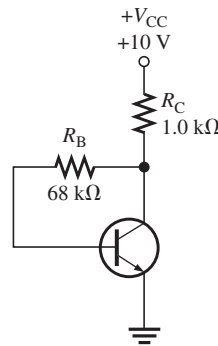

FIGURE 3-70
12. For the collector-feedback bias circuit in Figure 3-70, determine I_C and V_{CE} . Assume $\beta_{DC} = 100$.